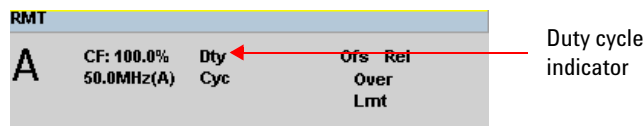

Figure 2-18 Duty cycle indicator
- 7 Press  key to complete the duty cycle entry. The **Dty Cyc** indicator is displayed as shown in Figure 2-18.